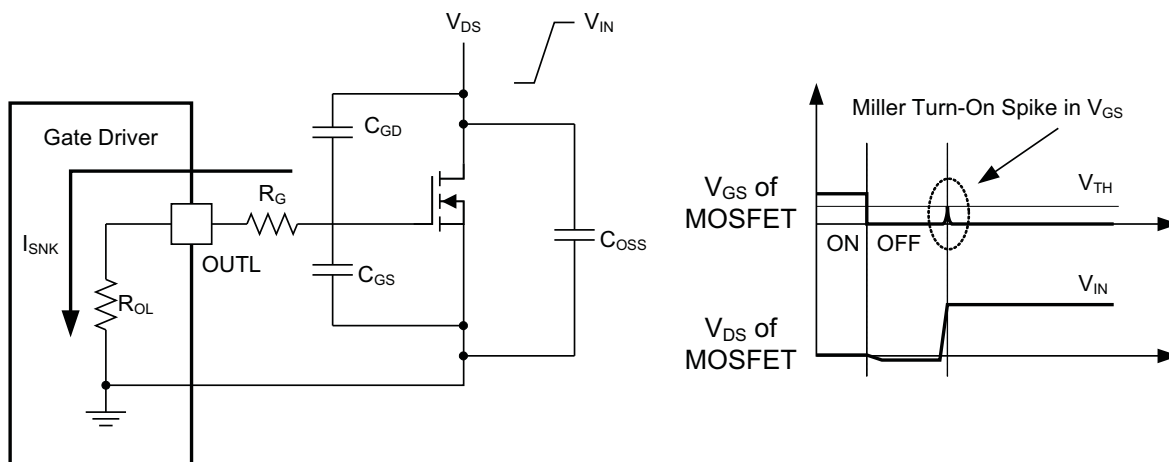

Figure 24. Very Low Pull-Down Impedance in UCC27511, 4-A/8-A Asymmetrical Drive (output stage mitigates Miller turn on effect)
An example of a situation where Miller turn on is a concern is synchronous rectification (SR). In SR application, the dV/dt occurs on MOSFET drain when the MOSFET is already held in off state by the gate driver. The current discharging the C_{GD} Miller capacitance during this dV/dt is shunted by the pull-down stage of the driver. If the pull-down impedance is not low enough then a voltage spike can result in the V_{GS} of the MOSFET, which can result in spurious turn-on. This phenomenon is illustrated in Figure 24. UCC27511 and UCC27512 offers a best-in-class, 0.375- Ω (typ) pull-down impedance boosting immunity against Miller turn on.